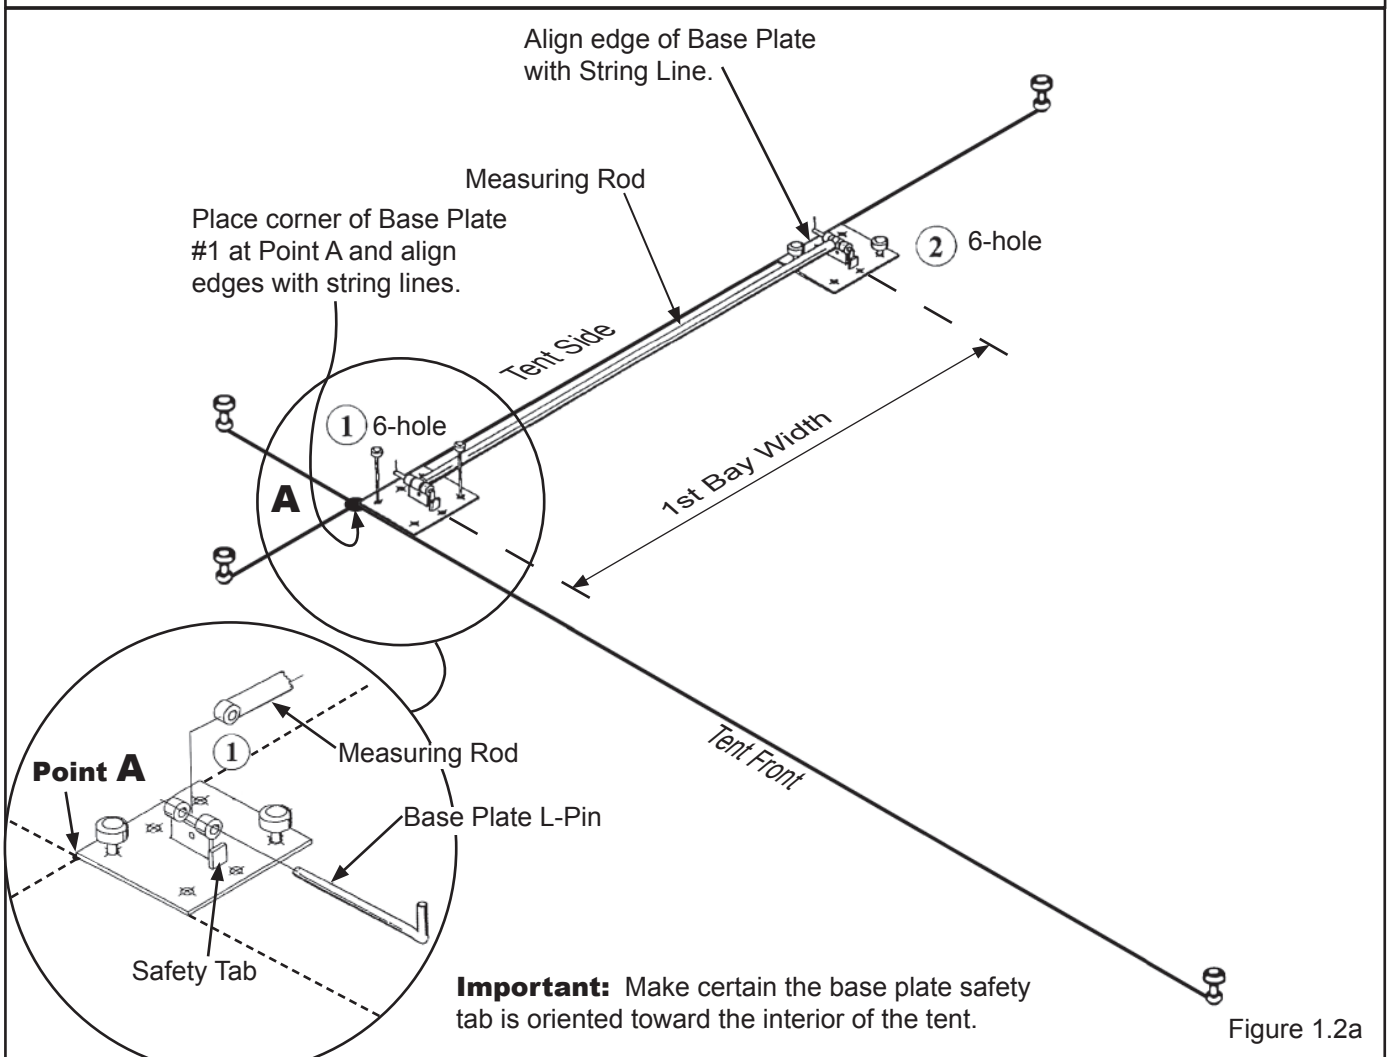

Figure 1.2a
- 1.2 Setting Base Plates:** Incorrect placement of base plates will create problems for the rest of the installation. Each hole of each base plate requires stakes for proper installation. **IMPORTANT:** Safety Tabs on all base plates must be oriented toward the interior of the tent. See **Figure 1.2a**. 6-Hole base plates use **48" stakes**, 4-Hole and 2-Hole base plates use **31 1/2" stakes**.
- 1.2.1 Starting at point A, place the outside corner of 6-Hole base plate #1 at point A, making sure the edges along the front and side of the base plate align with the front and side string lines, respectively. Anchor with two (2) stakes. See **Figure 1.2a**.
- 1.2.2 Connect the measuring rod with base plate L-Pin to base plate #1. Connect other end of the Measuring Rod to base plate #2 with base plate L-Pin. See **Figure 1.2a**.